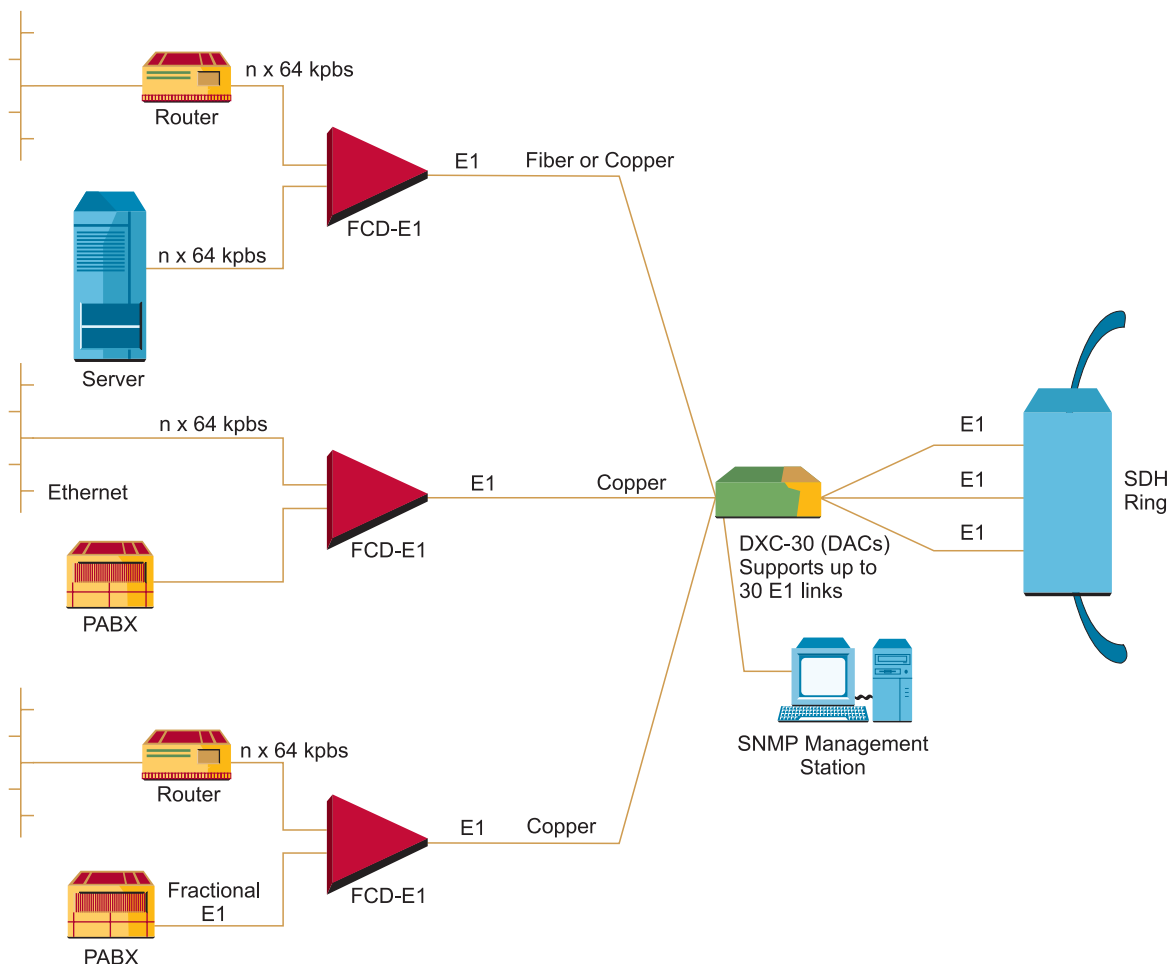

Figure 3. SDH Access Solution for Multiple Remote Sites
- FCD-E1 also operates opposite RAD's modular DXC (multiservice access node) products or other vendors' E1 equipment, for multilink star applications, such as access to SDH networks. The DXCs and FCD-E1 operate together with centralized SNMP network management (see Figure 3).